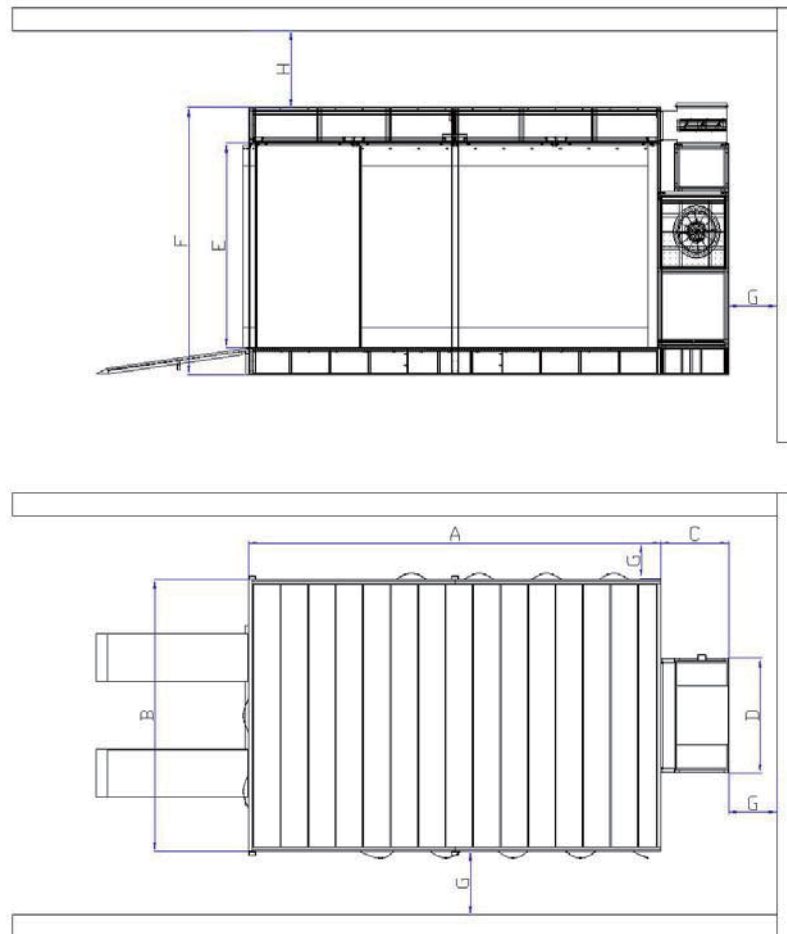

Fig. 2.1
4. For the correct function of the room it is necessary that it has around it the minimum space as shown in Fig.2.1.